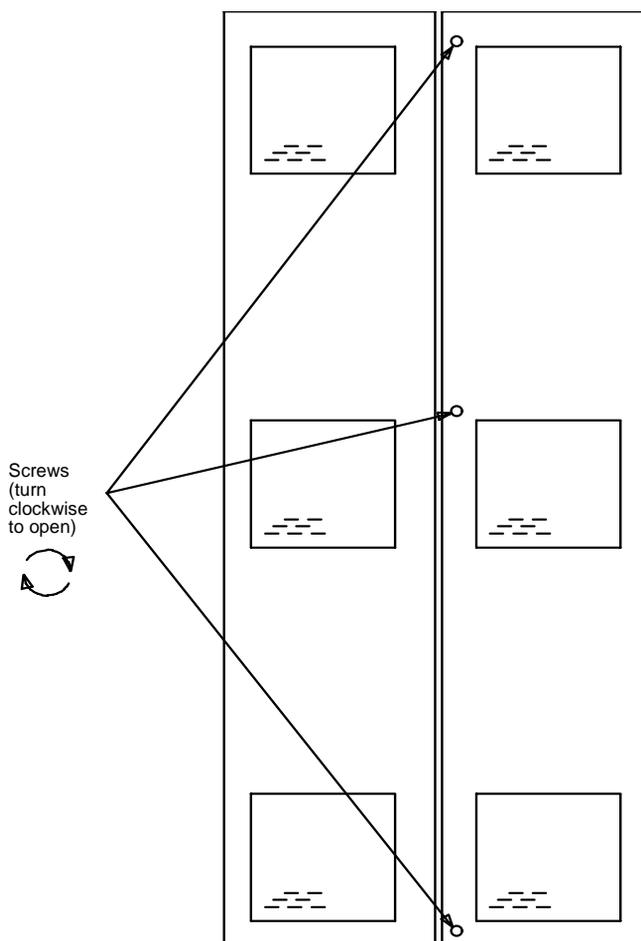

Figure 3-17. Location of MCC Door Latches (Rear)
16. Place the ramp as shown in Figure 3-17 on page 3-27. Bolt it into position using the bolts provided in the plastic bag attached to the ramp.